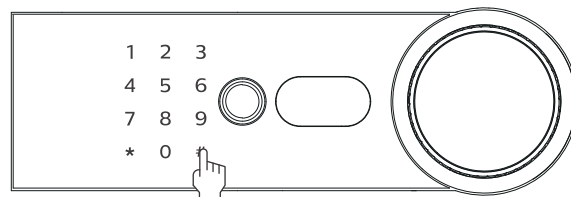

Figure 1
2. As shown in Figure 1, enter any fingerprint or simply touch the panel to wake up the keypad. Enter default PIN code '1234' and press '#' to confirm. After hearing a voice prompt 'Lock opened', open battery compartment inside the safe and insert in 4 AA batteries to complete the first use.